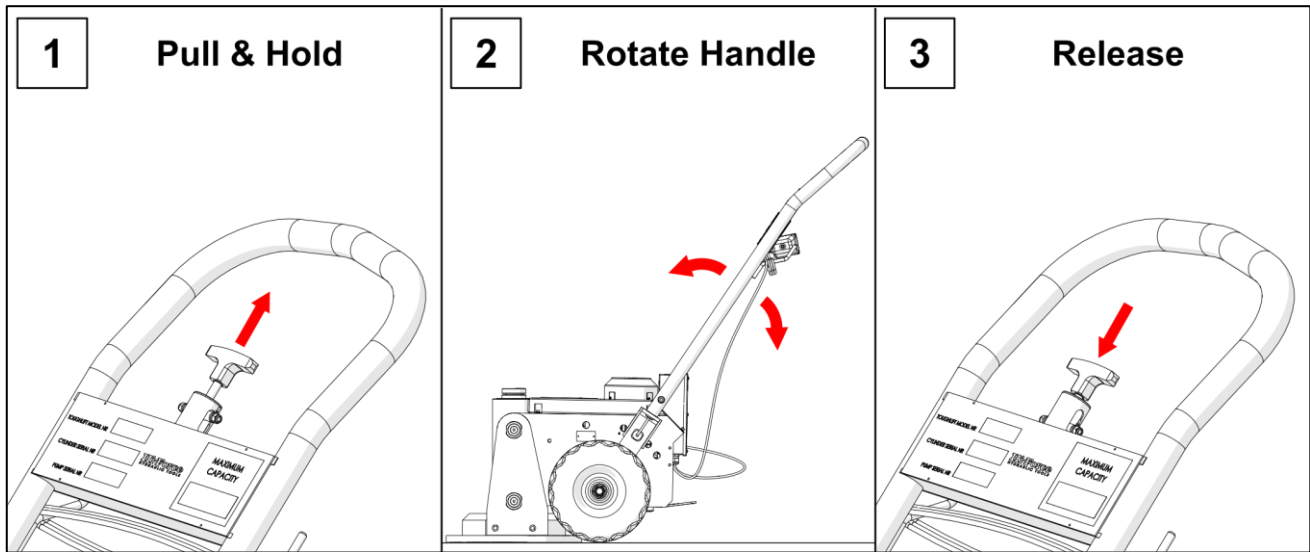

Figure 5.1: Handle Adjustment
1. Adjust the handle into the most comfortable position by [1] pulling up on the handle release (6) and [2] rotating the handle (7) to the desired position. [3] Let go of the handle release (6) and allow the locating pins to engage the handle latch-pin holes (18) on the side of the ToughLift main housing (See figure 5.1).
- Before lifting the unit, adjust the handle (See *figure 5.1*) into its forward most locked position (See *figure 7.1*). This places the handle directly over the units' centre of gravity, allowing it to be safely lifted by its handle.